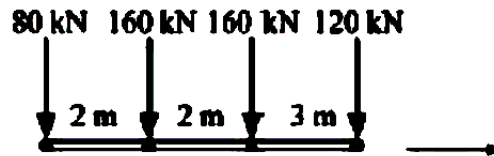

Figure 6
- (b) A train of wheel loads as shown in Figure 6 crosses a girder of 25m span with 120 kN load leading. Determine the value of